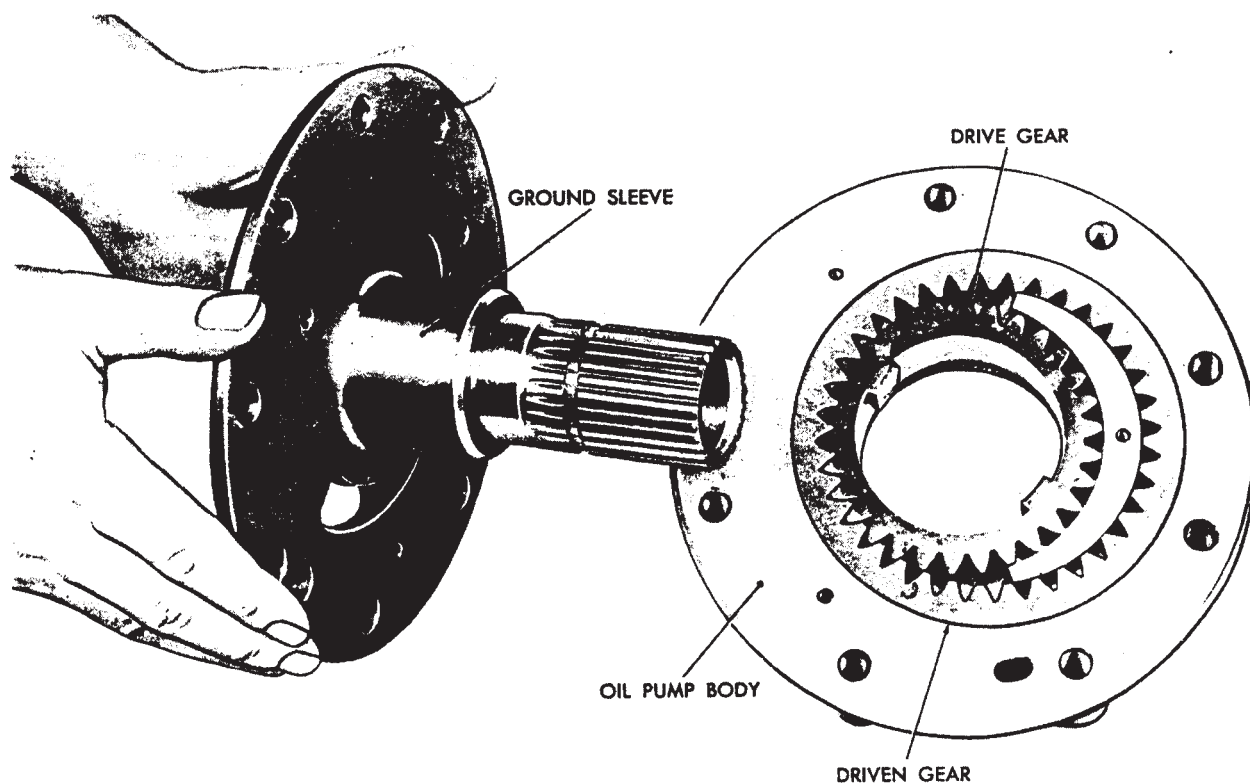

Figure 10-25. Converter Ground Sleeve Removal
2. Using an Allen wrench, remove three screws (33) from ground sleeve (32).
3. Remove the converter ground sleeve as shown in figure 10-25.